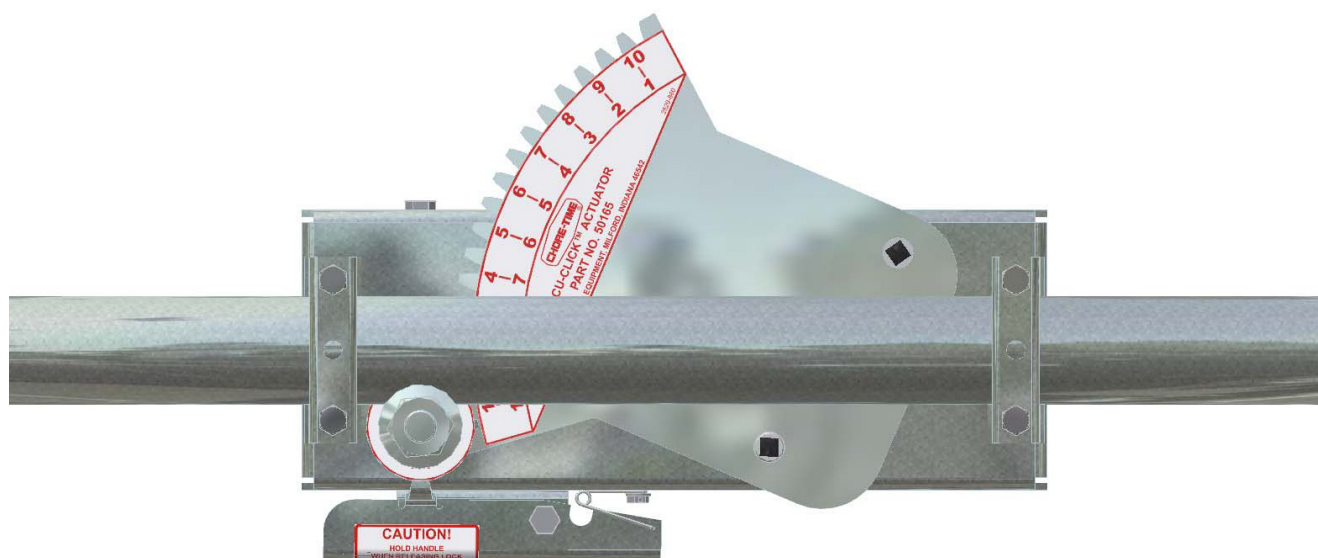

Figure 64. Actuator in Fully Open Brood Position
1. Once all actuators are installed operate actuators to the fully open brood position, **see figure 64.**